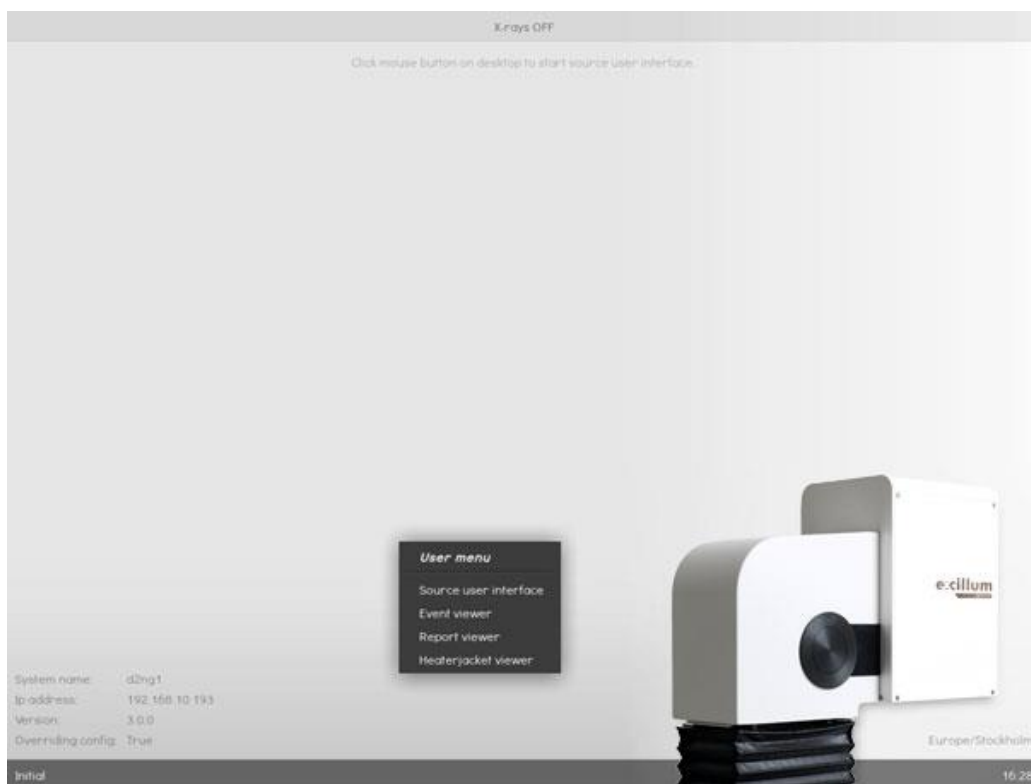

Figure 5-2. XCS desktop for the MetalJet D2+/C2 source.
2. Turn on the X-ray system controller and wait until the desktop is shown. See Figure 5-2.